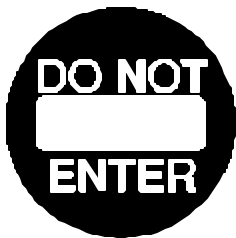

Figure 5
B. An international "DO NOT ENTER" sign (See Figure 5) shall be visible from the side that would swing toward pedestrians attempting to travel in the wrong direction. It should be mounted on the door at a height 58 in., ±5 in. (147 cm, ±13 cm) from the floor to the centerline of the sign. The sign shall be minimum of 6 in. (15.2 cm) in diameter, having a red circle with the wording, "Do Not Enter", in white letters in the red circle.